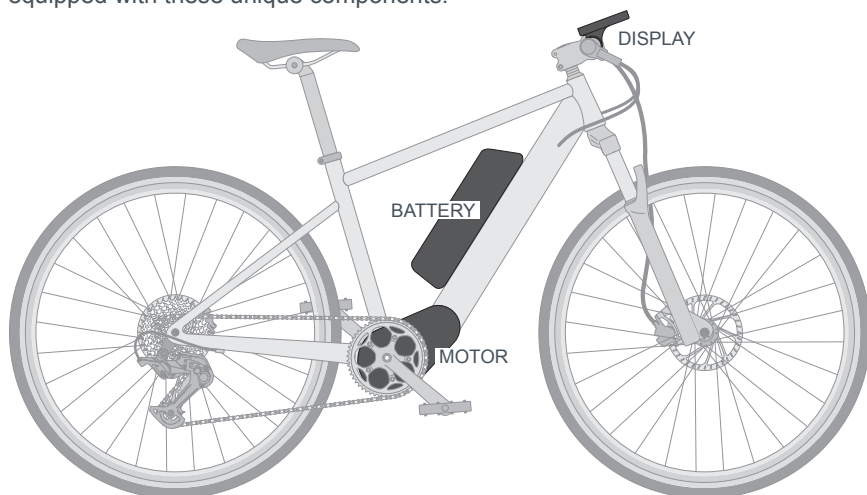
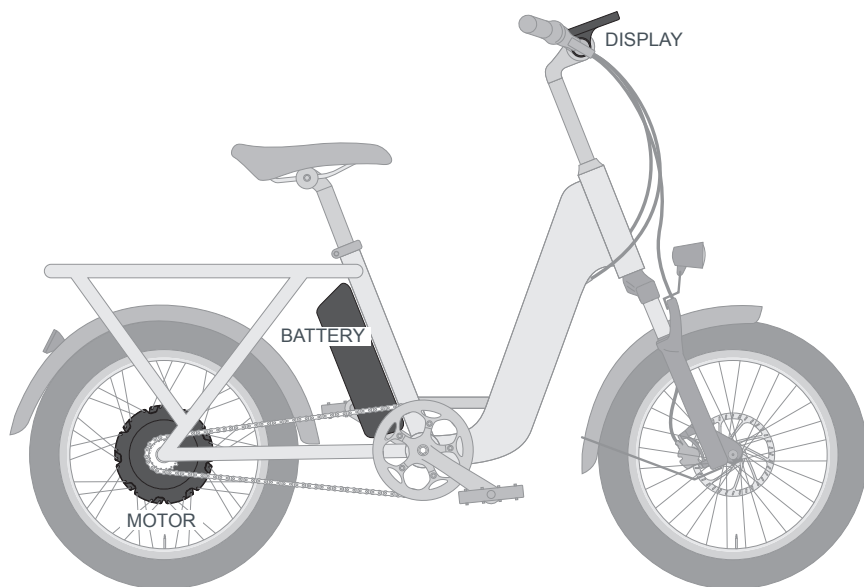

fig. 1
fig. 2
**WARNING:** A child should never ride an e-bike that is too big for them. While some e-bikes have step-through frames (see fig. 2) that may allow a child to mount an e-bike, that does not mean the e-bike is the right size for them to operate safely. An e-bike that is too big for a child may lead to a loss of control and fall, resulting in serious personal injury or death.
- **Display(s):** Provide the rider with relevant information about the ride, such as speed, distance, power output, and battery charge (**fig. 1**).
- **Class 1:** Bicycle equipped with a motor that provides assistance only when the rider is pedaling, and that ceases to provide assistance when the electric bicycles reaches 20 mph (**fig. 1**).
- **Class 2:** Bicycle equipped with a throttle-actuated motor, that ceases to provide assistance when the electric bicycle reaches 20 mph (**fig. 2**).
NOTE: This Manual is only for e-bikes that are manufactured as complete e-bikes and designed to apply power through the rear wheel, with either a “mid-drive” motor (**fig. 1**) or motor contained in the rear hub (**fig. 2**). This Manual does not cover other types of e-bikes, including front-wheel drive, conversion kits, or “add-on” electric motors of any kind.